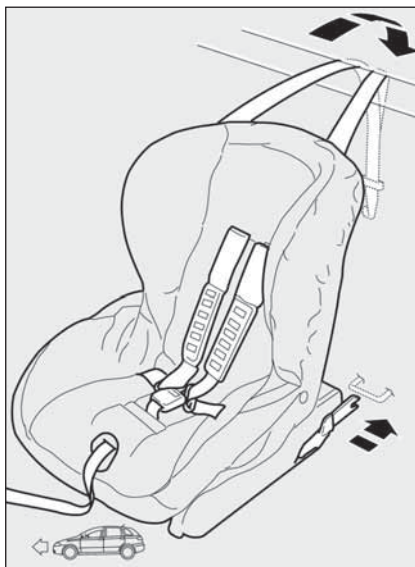

fig. 11
**Fig. 11** shows a child restraint system by way of example.